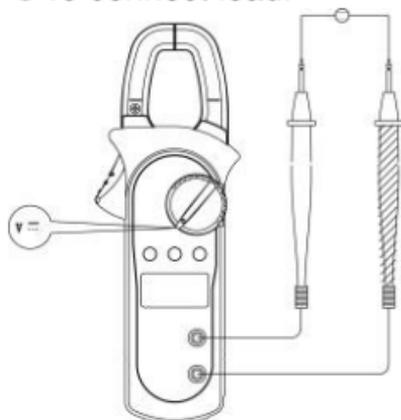

Figure 3
1. DC voltage measurement ($V_{=}$) (shown in Figure 3)